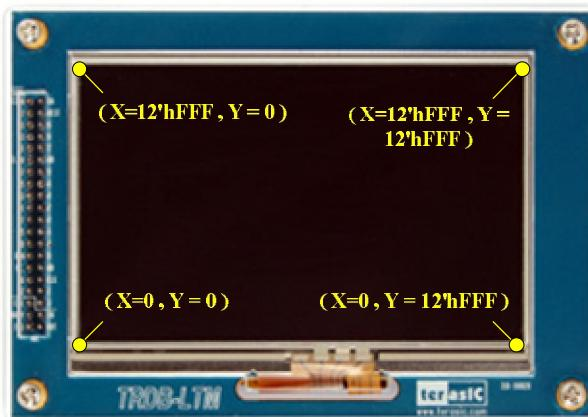

Figure 4.8. The x and y coordinates of the corners on the LTM touch screen
4. When users touch the LTM screen, the 7-segment displays "HEX6~HEX4" and "HEX2~HEX0" on the DE2 board will display the X and Y coordinates (in Hexadecimal format) of the touch point respectively (**DE2-115/DE2 board only**). Figure 4.8 indicates that the x and y coordinates of the corners on the LTM touch screen